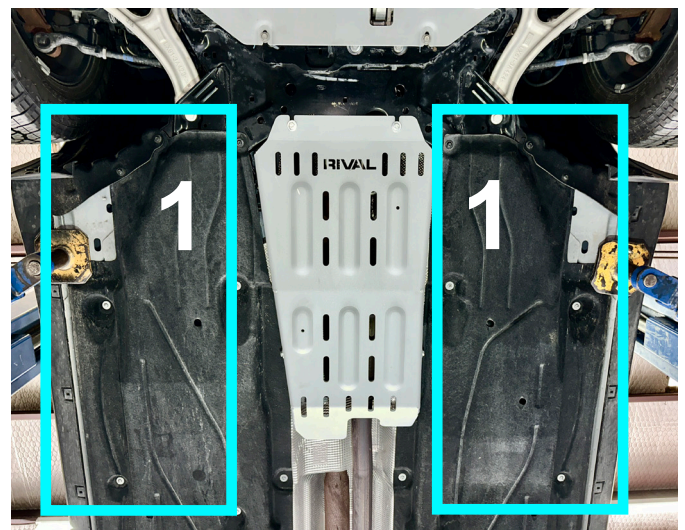

Fig. 10
9. Re-Install felt covers (1) as shown in Fig 10.